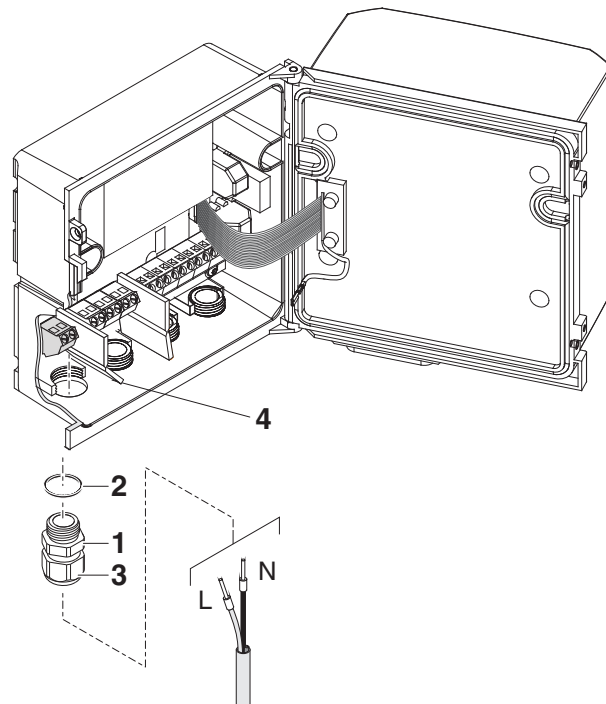

figure 3-13 Inserting the supply line.
- 6 Screw a cable gland (pos. 1 in figure 3-13) with sealing ring (pos. 2) into the enclosure below the power supply connection.
- 7 Loosen the coupling ring (pos. 3).
- 8 Feed the power line through the cable gland into the enclosure. When doing so bend the flexible divider (pos. 4) to the right.
- 10 Tighten the cap nut (pos. 3 in figure 3-13).